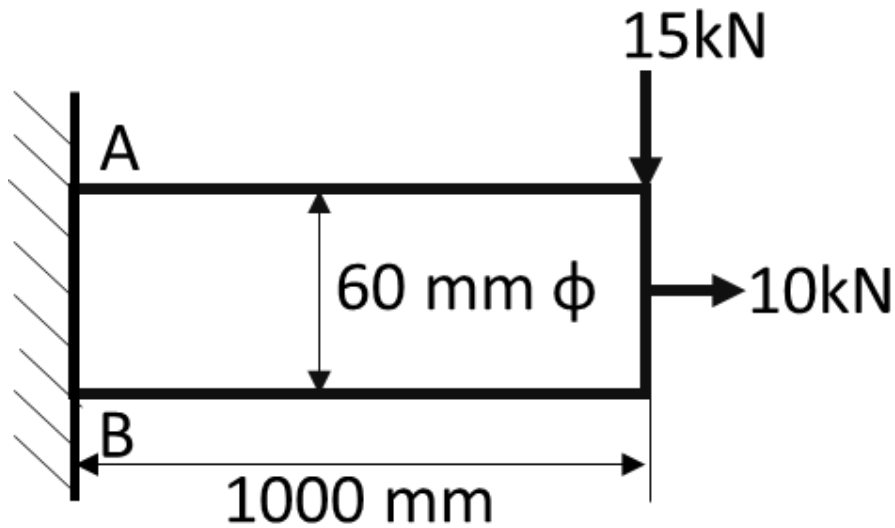

Figure 2
- B) Determine the stress induced at critical points A and B on the loaded member as shown in figure 2. (3)